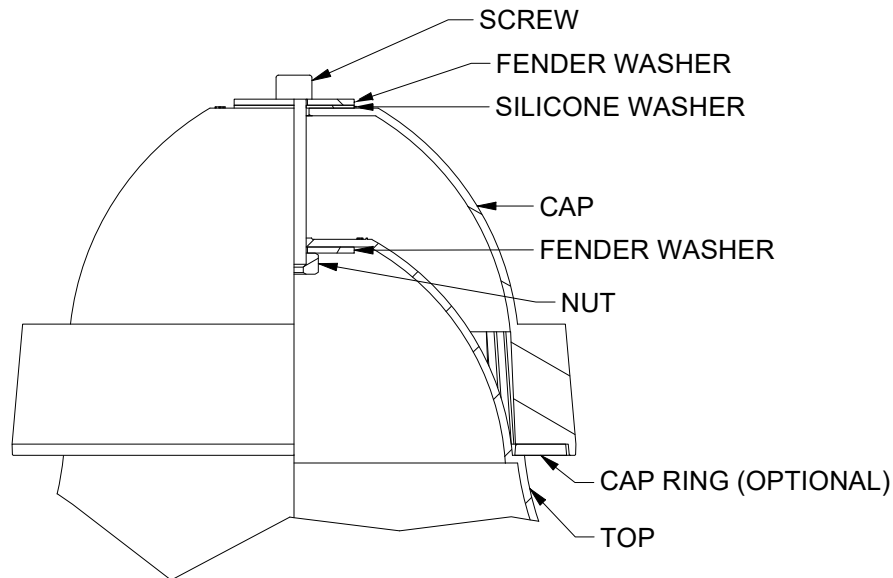

FIGURE .2
- 2) TOP WITH FINIAL (NO CAP): SEE FIGURE 2 FOR ASSEMBLY ILLUSTRATION.